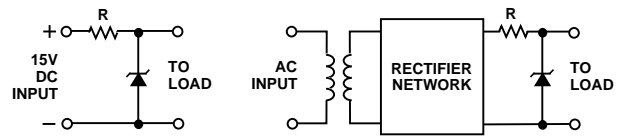

Figure 17.
For power sources utilizing the TransZorb TVS, the TransZorb TVS is chosen such that the reverse stand-off voltage is equal to or greater than the dc output voltage. For certain applications it may be more desirable to replace the series resistor (R) with an inductor (Figure 17).